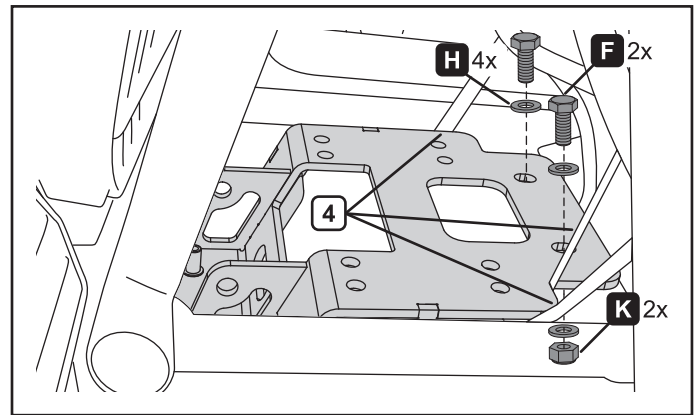

Figure 3.
4. Loosely install the winch mount (A) with bolts (F), washers (H) and nuts (K). Route the hoses and cables (4) as shown in figure 3.